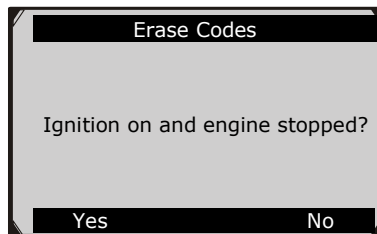

Figure 6.6
- 2) After you have pressed **OK** button, a message will come up asking you to check the ignition and engine status (Figure 6.6).